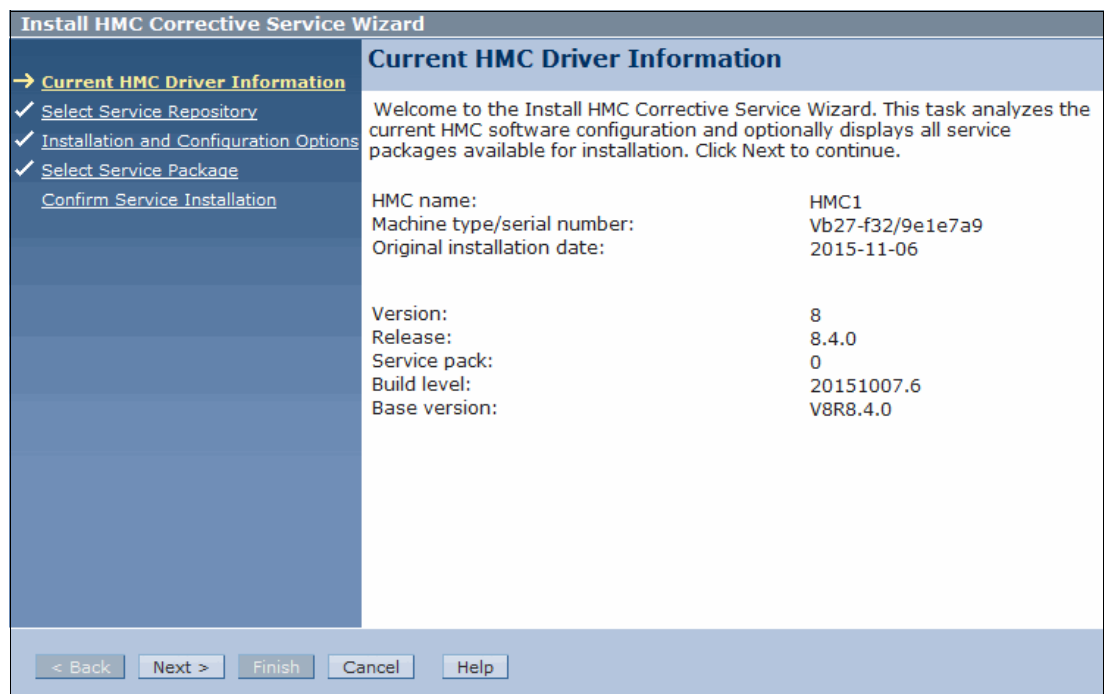

Figure 3-115 Current HMC Driver Information
3. The Current HMC Driver Information panel (Figure 3-115) provides the current level. Click **Next**.